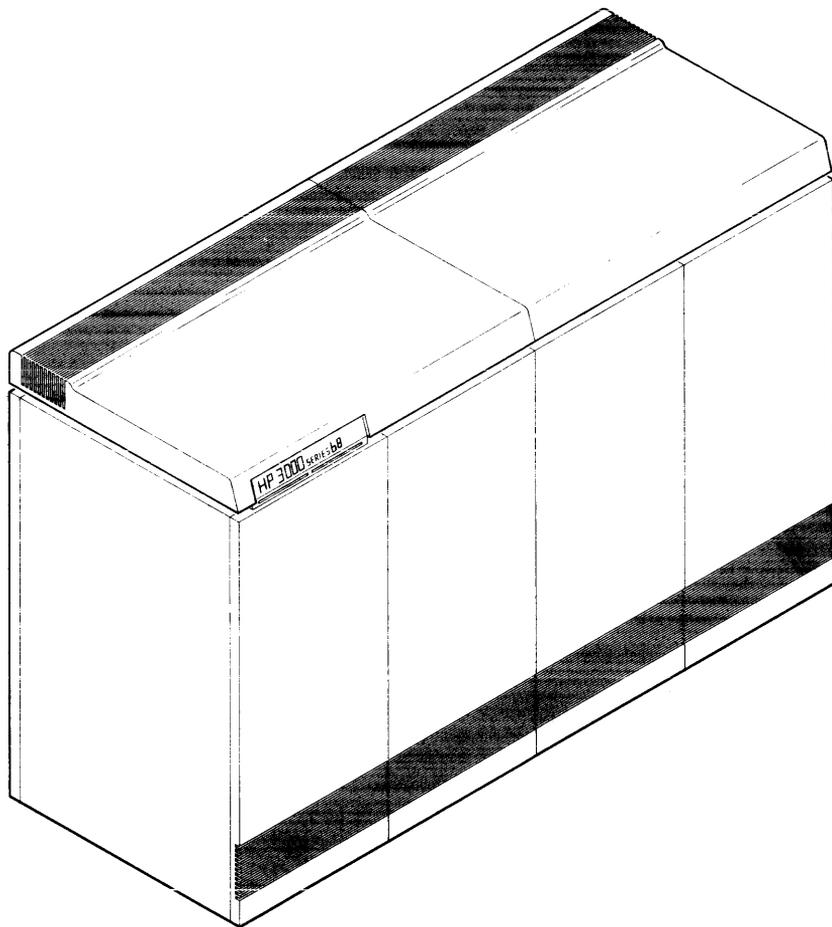

Figure 8-1. HP 3000 Series 64/68 Computer
1. Locate assembly to be replaced on Figures 8-1 through 8-6.